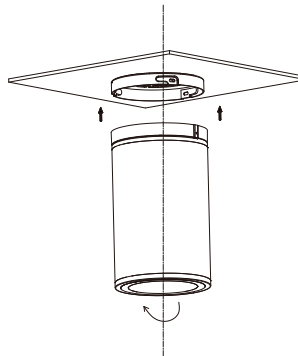

Fig 4
4. Rotate and snap the light onto the ceiling tray. (Fig 4)